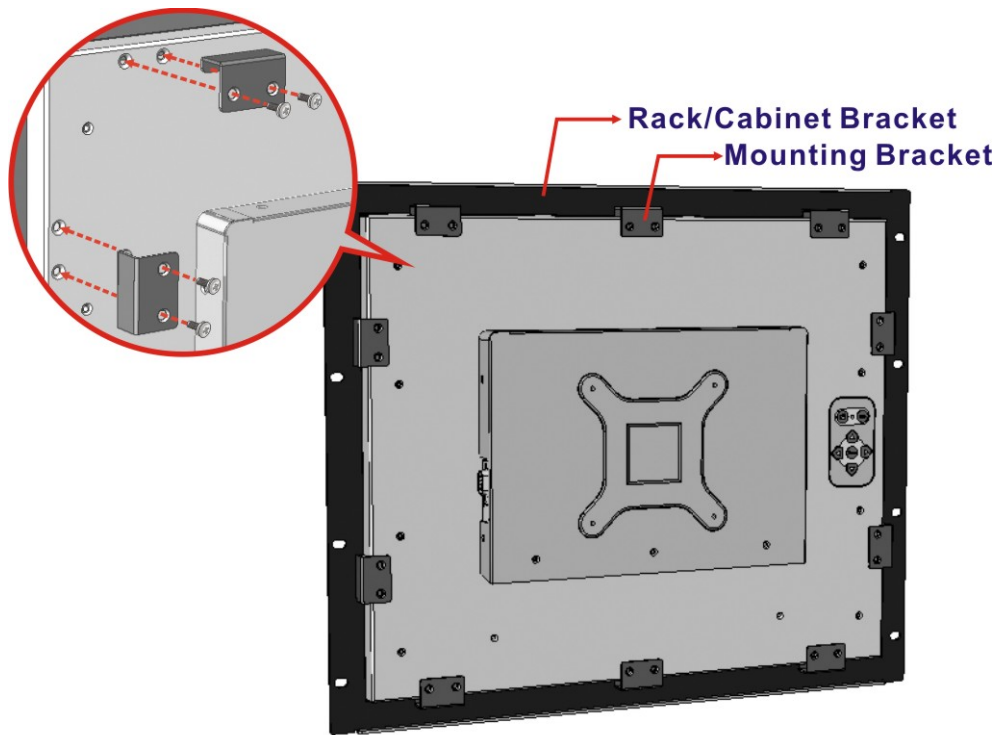

Figure 3-35: Secure the Mounting Brackets
Step 2: Secure the rack/cabinet bracket to the monitor. To do this, secure the 10 mounting brackets to the corresponding screw holes on the rear of the monitor using the provided retention screws (Figure 3-35).